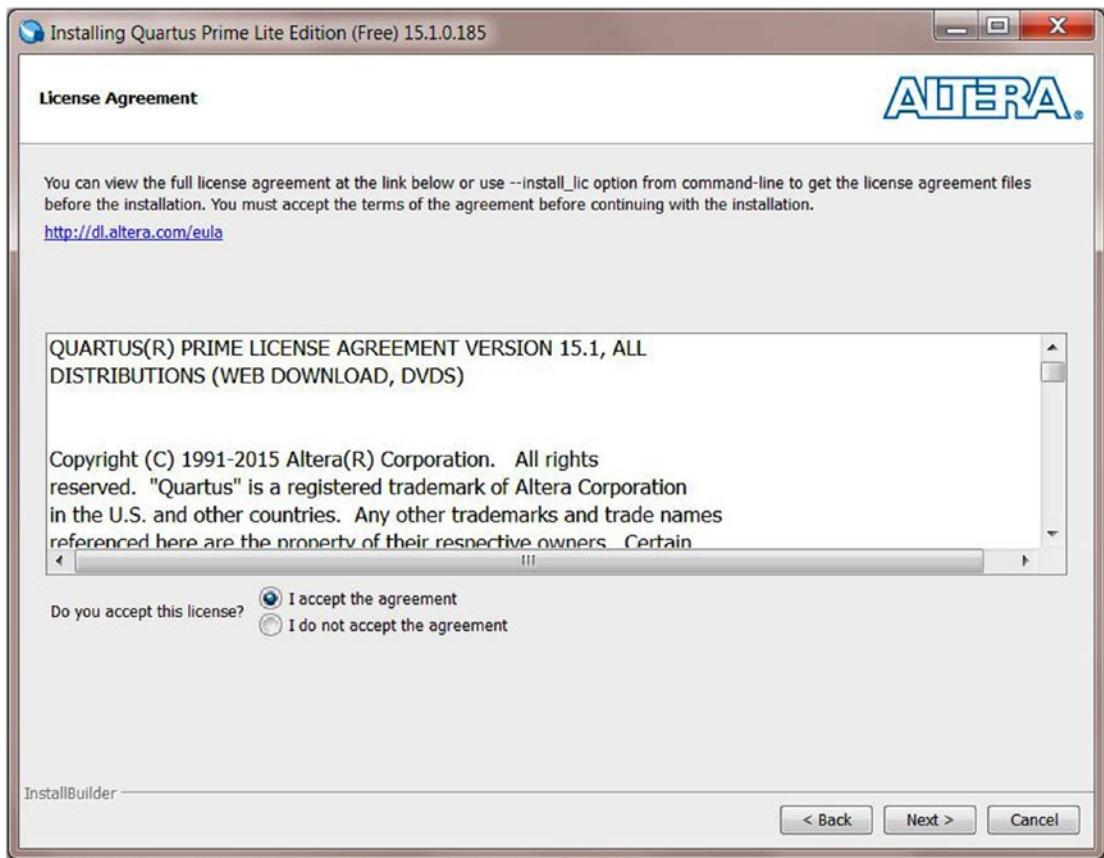

Figure 3-11. License Agreement
2. Click "I accept the agreement" and then click **Next** (Figure 3-11).